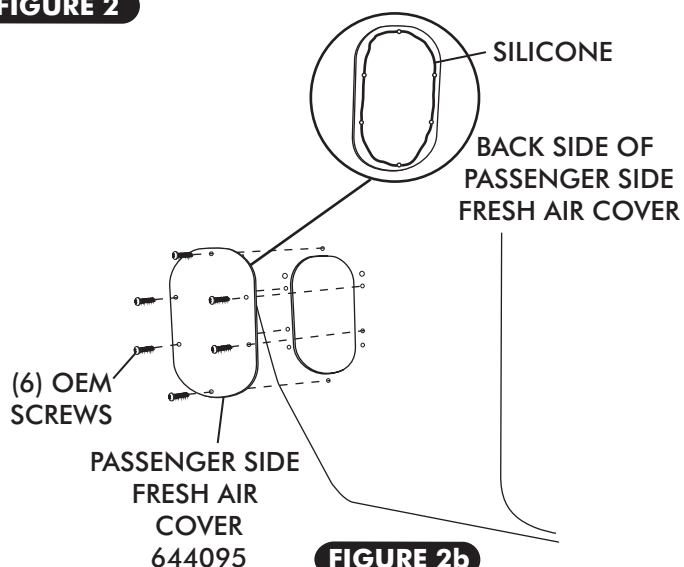

FIGURE 2b
- ☐ INSTALL PASSENGER SIDE FRESH AIR COVER USING OEM SCREWS AS SHOWN IN FIGURE 2b, BELOW.